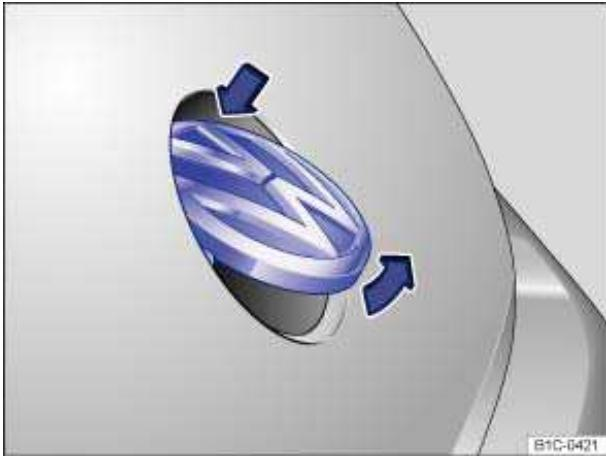

Fig. 26 Opening rear hatch from the outside.
- Using your thumb, press the top of the Volkswagen emblem \Rightarrow fig. 26 and move the top of the emblem down. Grasp the bottom part of the emblem and pull to lift the rear hatch.